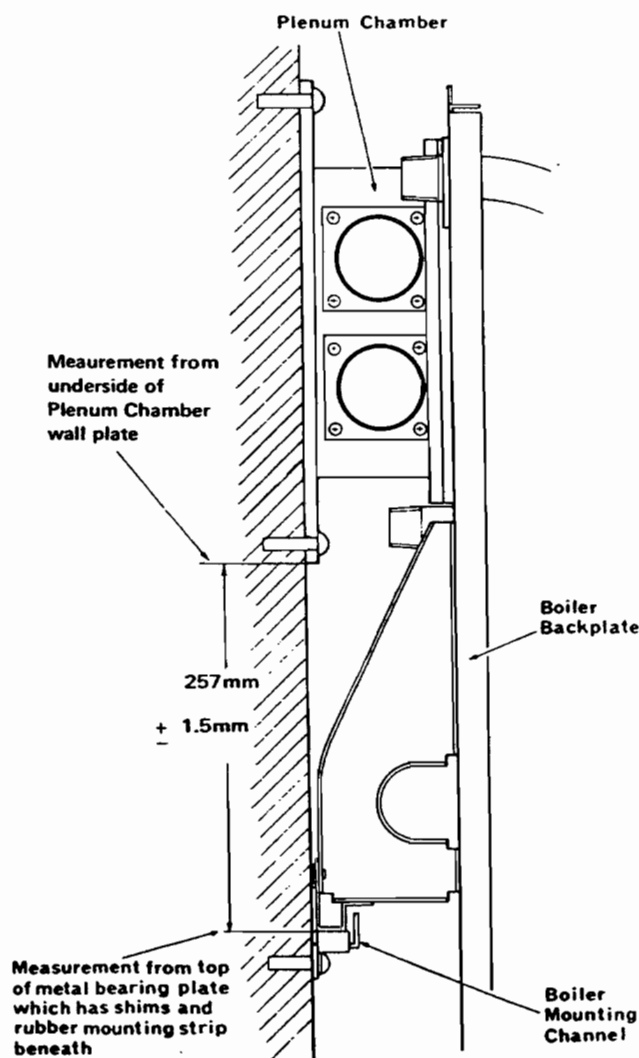

Fig. 6 RELATIVE POSITION OF PLENUM CHAMBER AND MOUNTING CHANNEL
(10) Measure the distance from the bottom of the plenum chamber wall plate to the top of the metal bearing plate in the boiler mounting channel, see Fig. 6. Compare this dimension with the nominal dimension of 257mm and by adding additional shims or removing those already in position, adjust the measured distance to equal the nominal measurement, $\pm 1.5\text{mm}$ (1/16in.). If a more coarse adjustment is necessary, the plenum chamber and mounting channel can be moved slightly up or down on the wall using the elongated holes in their mounting flanges. It is essential that this dimension is accurately obtained, otherwise once the boiler is lifted onto its mounting channel, the screw holes in the boiler back plate will not align with those in the plenum chamber.
(11) Make good the inside and outside wall surfaces around the liner as necessary.
(12) Fit the balanced flue terminal over the end of the flue duct, ensuring that the duct is located inside the outlet aperture on the terminal. Secure the terminal to the wall with the two size 8, 1in. long screws supplied (Accessories Card Item E).
channel, see Fig. 6. Compare this dimension with the nominal dimension of 257mm (10 1/8in) and by adding additional shims or removing those already in position, adjust the measured distance to equal the nominal measurement, + 1.5mm (1/16.). If a more coarse adjustment is necessary, the plenum chamber and mounting channel can be moved slightly up or down on the wall using the elongated holes in their mounting flanges. It is essential that this dimension is accurately obtained otherwise once the boiler is lifted onto its mounting channel, the screw holes in the boiler back-plate will not align with those in the plenum chamber.